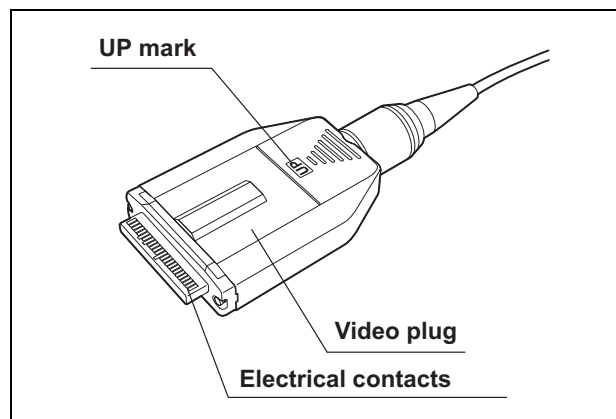

Figure 3.13
1. Confirm that the video plug and its electrical contacts are dry (see Figure 3.13). If the equipment is wet, wipe it dry with a clean, lint-free cloth.
3. Hold the video plug so that the UP mark is facing upward (see Figures 3.13 and 3.14).